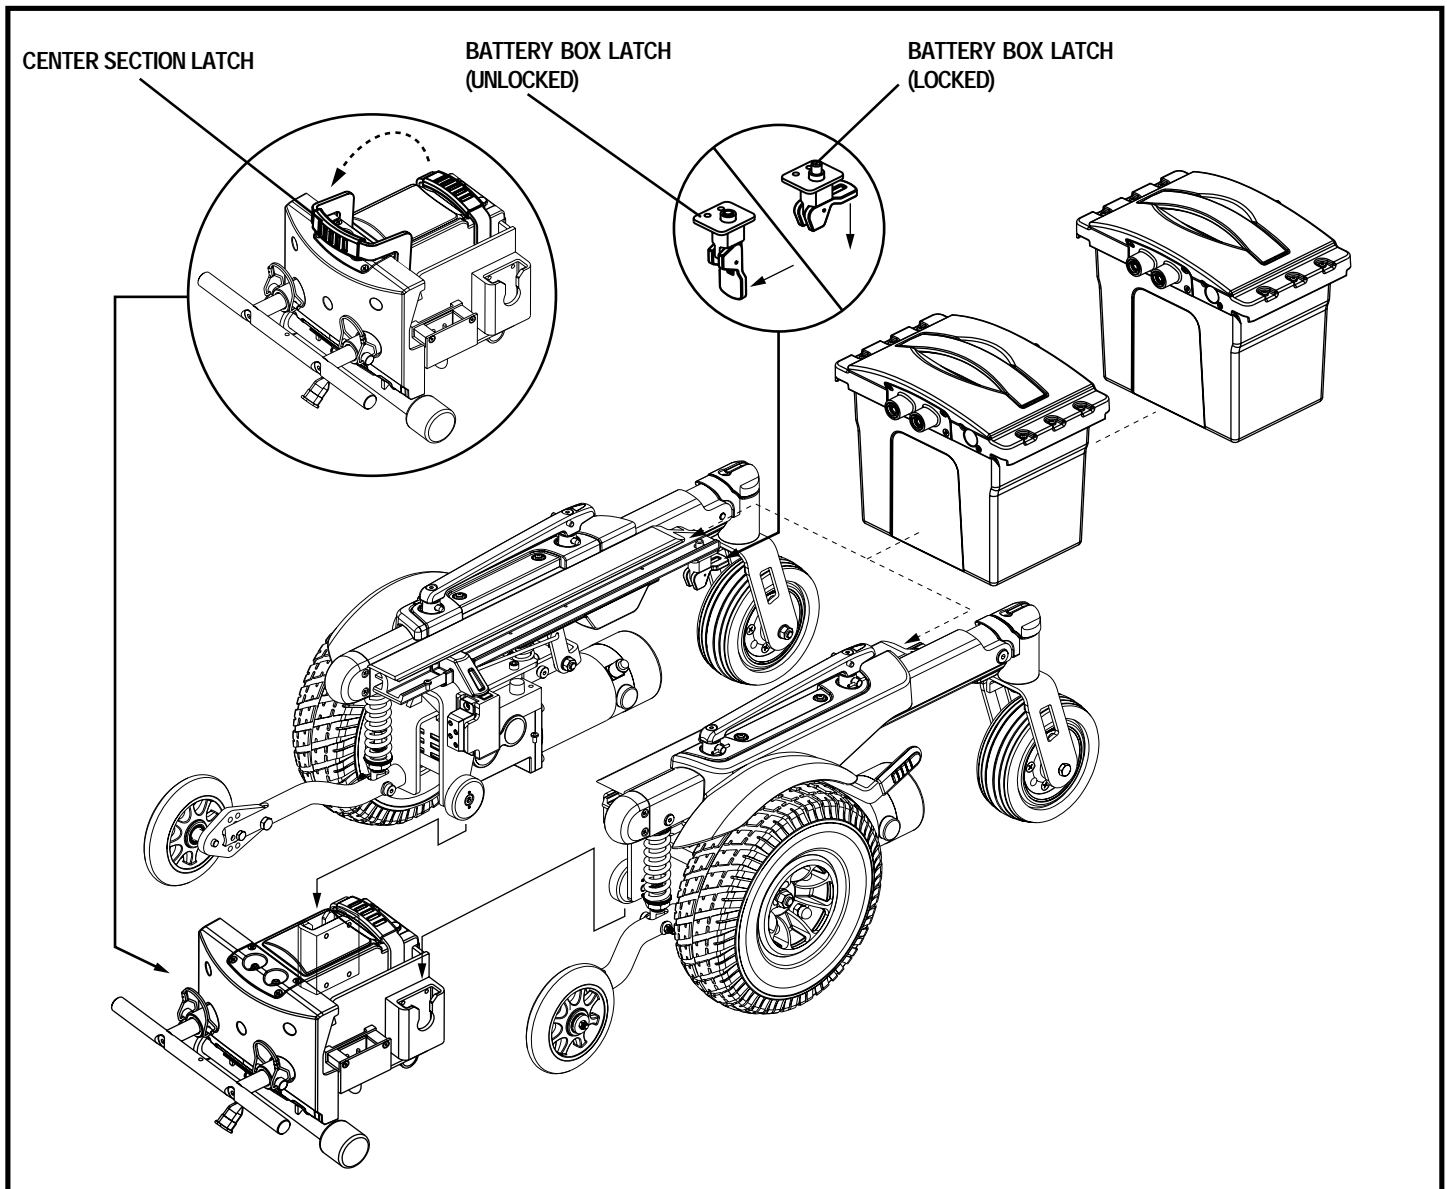

Figure 13. Quantum Dynamo 1107 Battery Box Removal and Frame Separation
5. Flip down the battery box latches on each side of the power base. See figure 13.
7. Flip up the center section latch. See figure 13.